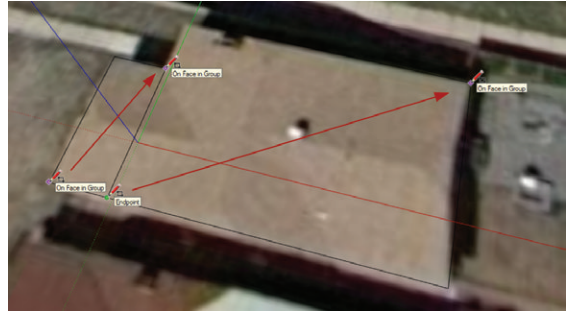

Figure 17.3 Use the Rectangle tool to trace the roof outline.
2. Trace the roof outline using the Rectangle tool. For this task, it is faster to use the Rectangle tool to trace over each portion of the roof rather than using the line tool (Figure 17.3).